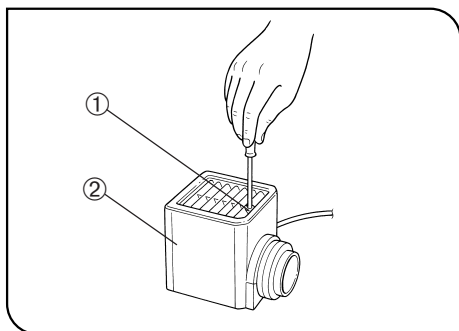

Fig. 40
(Figs. 40 - 42)
5. Slide the lamp housing cover onto the housing base from the above. Tighten the clamping screw ① while pressing downward on the cover. (Fig. 40)